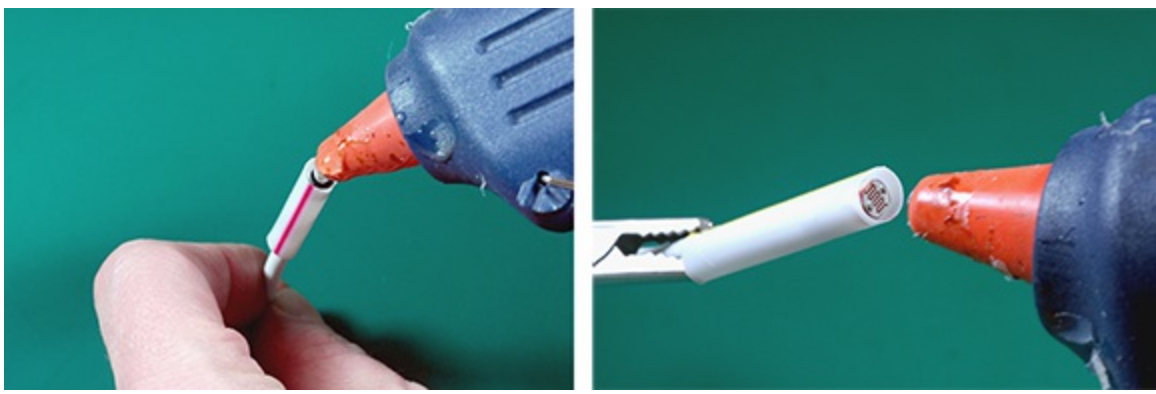

Figure 12-9: Sealing the tops of your temperature and light sensors.
- 10. Slip your sensors into the straws so that the sensor is near the end of the straw. Apply a bit of hot glue to the end of each sensor, as shown in Figure 12-9.**